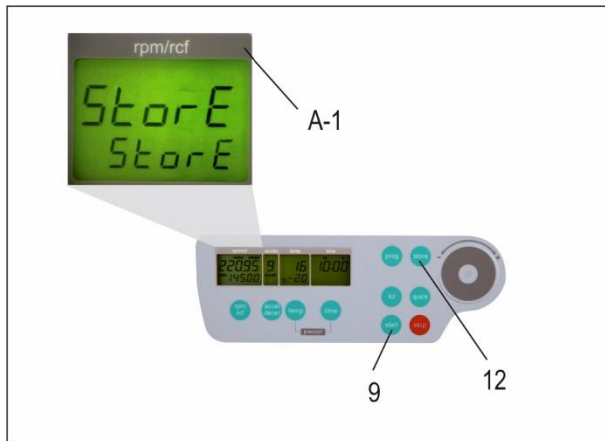

Figure 7
- All changed settings must be confirmed by the key "store" or "start" (9). A confirmation screen will appear with the word, "store", in the display "rpm/rcf" (A-1) - Only then the pre-selections are valid (see Figure 7)!